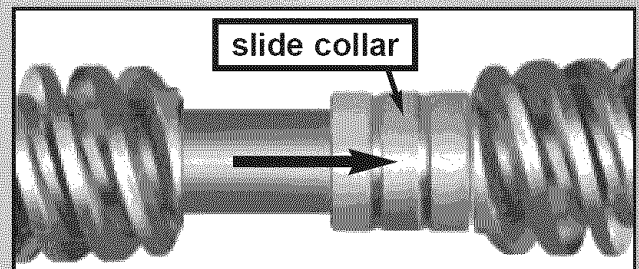

Fig. 1-10
- Slide collar toward power head so that it now covers hooks. **Fig. 1-10.**